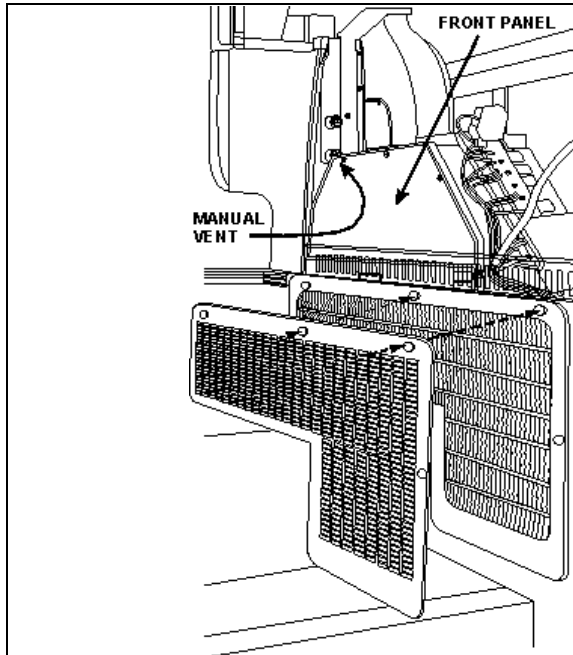

FIGURE 41: DRIVER'S HVAC UNIT
4. From inside of vehicle, remove the two finishing panels in front of unit. Remove the three screws fixing the unit front panel. Open the manual vent located inside the HVAC unit, on the driver's side (Fig. 41) to ensure an efficient draining.
Whenever the heating system has been drained and refilled, or the system has run low on coolant and coolant has been added, it is necessary to bleed air from heating system. Locate the manual vent illustrated in Figure 41, and open momentarily until no air escapes from the line.